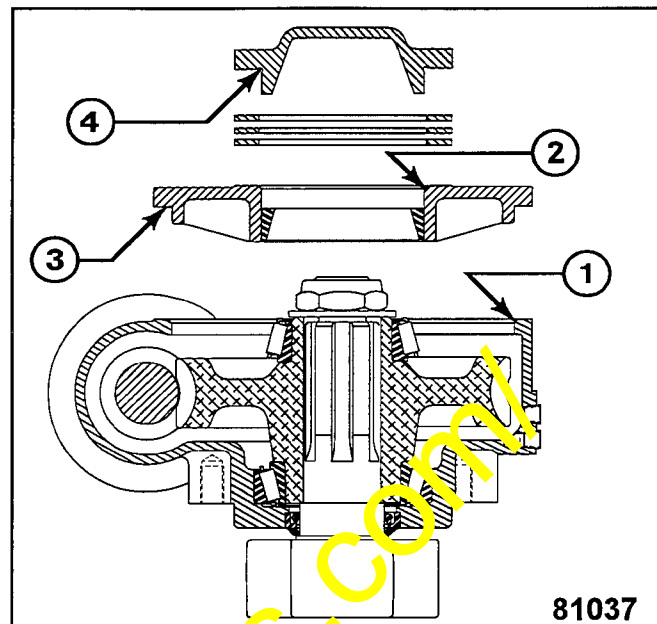
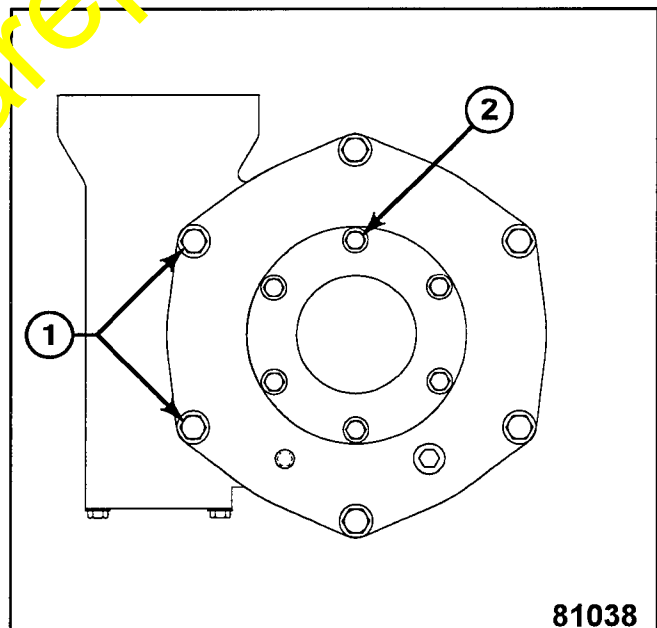

Figure 7
Figure 8
5. Chamfer (.03 inches x 45°) case at (1, Figure 7), and case cover at (2). Protect the inside of the gearcase from foreign material.
6. Thoroughly clean mating surfaces of case and cover with degreasing solvent; apply primer "N" to chamfered case surface (1) and apply .06 bead of Loctite 12017 to cover (3) on mating surface between the cover and case; circle bolt holes with Loctite.
7. Install cover to case, apply Loctite to threads of two bolts used in through holes at worm pinion (1, Figure 8); install six washers and bolts. Cross tighten bolts to 80 lbf ft (9.7 kg•m).
9. After shim pack is determined, thoroughly clean mating surfaces with degreasing solvent; apply primer "N" to chamfered cover surface (2, Figure 7), and apply .06 bead of Loctite 12017 to bearing retainer (4) at the root of the radius; circle bolt holes with Loctite.
10. Place determined shim pack on bearing retainer. Install bearing retainer and shims to circle drive case cover; install six washers and bolts (2, Figure 8). Tighten to 32 lbf ft (4.4 kg•m).